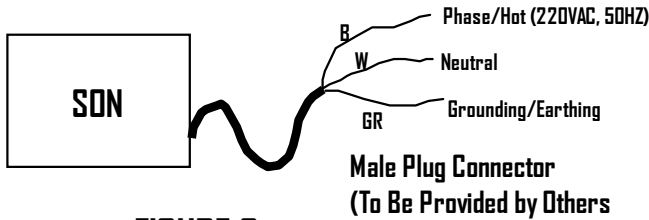

FIGURE 3
230VAC -- Refer to Figure 3 for the 220-240VAC, 50HZ model that is supplied with the cord, but without the male plug provided. If the manufacturer supplies the cord without a male plug then the black wire will be the "phase" or "hot" wire, the white wire will be the "neutral" or "grounded current carrying" wire, and the green wire will be the "grounding" or "earthing" wire. Refer to Figure 4 for the model (CE) with the cord. Refer to Figure 5 for 230VAC, 60HZ installations where phase-to-phase voltage is used instead of phase to neutral.